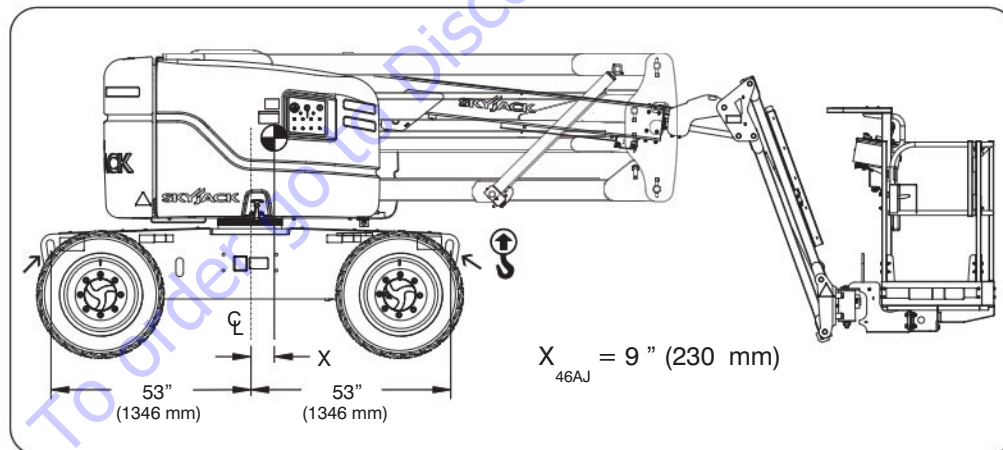

Figure 08 Approximate center of gravity
1. Rotate the boom and put the MEWP in the position shown in *Figure 08*.
4. Attach the rigging to all four lift points as shown in *Figure 08*.
5. Adjust the rigging to make sure the MEWP stays level when you hoist it. Refer to *Figure 08* for the center of gravity location.